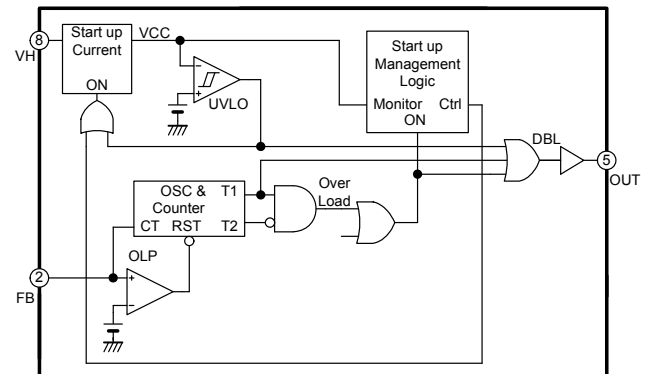
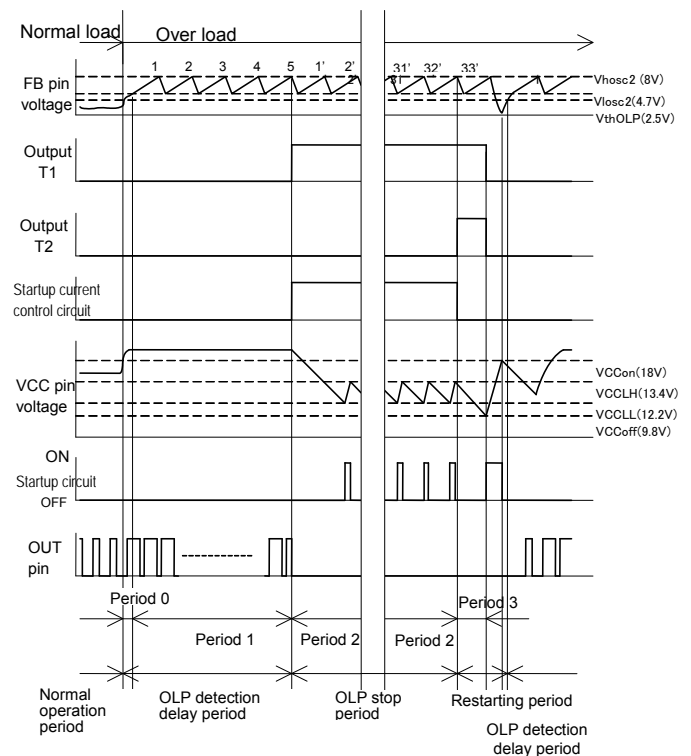

Fig.10 Overload protection circuit (auto restart type : FA5553/FA5566)
Fig.11 Overload protection timing chart (auto restart type)
FA5553/FA5566 has auto restart type overload protection in it. Its circuit block is shown in Fig.10 and the timing chart of protection operation in Fig.11.
- If FB pin voltage rises more than 2.5V (typ.), the oscillator for OLP begins to operate, and reset of a counter is canceled together. At this time, both output T1 and T2 keep Low level. And OUT pin still outputs pulses and continues PWM control (Fig.11 period 0-1).